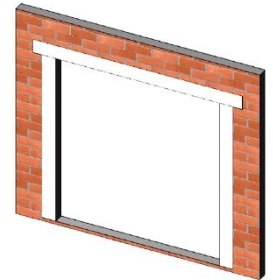

Figure 20:
3. Finally, at the head, embed the flashing into the sealant on the mounting flange and fasten into place. The flashing paper should be cut sufficiently long enough to extend past the flashing paper at each jamb by at least 3 in (Figure 20).